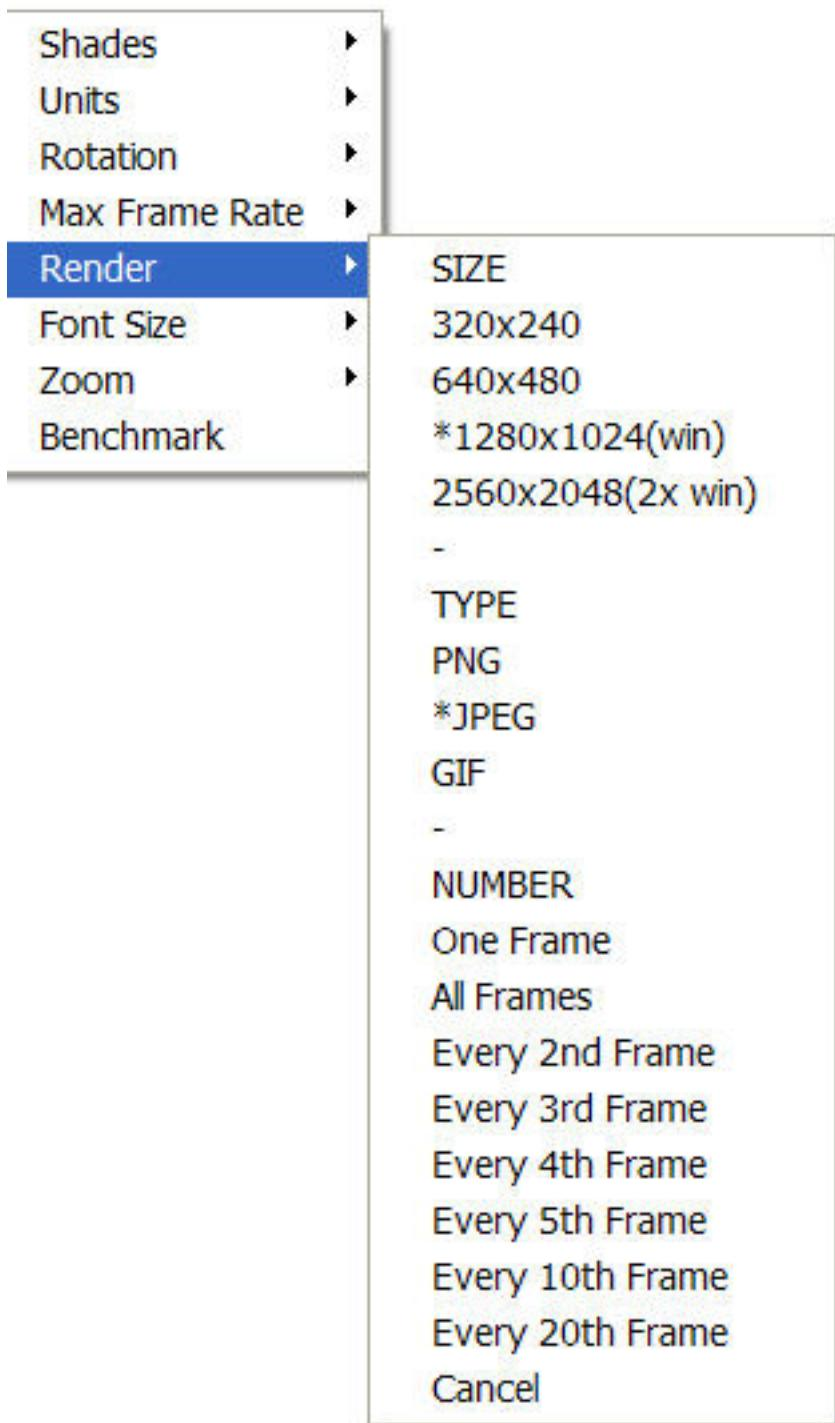

Figure B.7: Render Menu.
The **Render** menu, illustrated in Figure B.7, allows one to create PNG or JPEG image files of the currently displayed scene. The graphics library, GD 2.0.15, was used to create the rendered versions. GD 1.0 is documented in reference [12, Appendix 4]. GD 2.0.7 now creates images using *full color* allowing for more realistic scene representations eliminating the color banding that occurred with the previous version because of the limited number (256) of colors used to represent images. Due to patent disputes, GD 2.0.15 has dropped support for the GIF file format and uses JPEG or PNG instead.